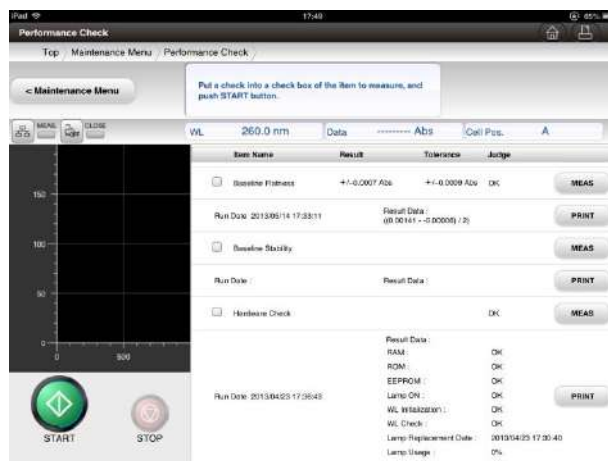

Fig. 6-14 Post-Baseline Flatness Check Screen
- (2) The guidance for measurement conditions under configuration is displayed and the conditions are set. Then, the baseline flatness check is performed.
- (3) After the baseline flatness check is performed, the Post-Baseline Flatness Check screen (Fig. 6-14) is displayed. The measurement result is displayed on the Baseline Flatness section and “OK” if the value is within the standard or “NG” if the value is out of the standard is displayed. In the case of “NG”, perform the check again in the above procedure. If “NG” is displayed again, see “7.10 Troubleshooting.”